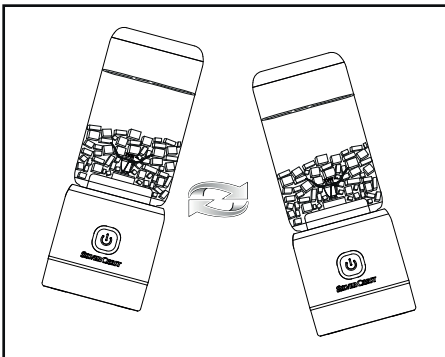

Fig. 1
4) To distribute the ingredients better, you can move the appliance while it chops the food. To do this, hold the appliance in your hand and make sweeping back and forth movements with it (see Fig. 1). Make sure that the blender jug **4** does not come off the motor unit **9**.